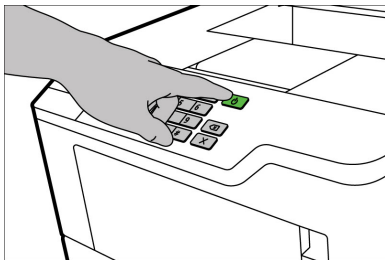

Figure 6-64. Lexmark printer power button
5. Press and hold the power button on the printer (Figure 6-64).